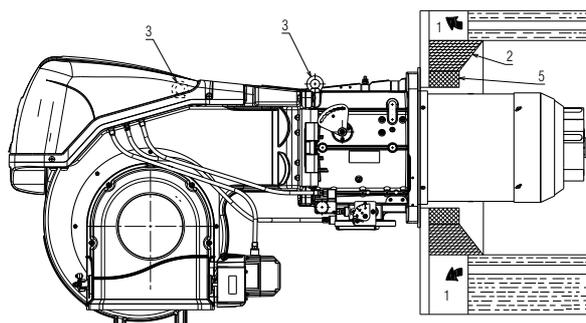

Fig. 16
For boilers with front flue passes 1)(Fig. 16 on page 22) or flame inversion chamber, a protection in refractory material 5) must be inserted between the boiler fettling 2) and the flame funnel 4).
For boilers with a water-cooled frontpiece, a refractory lining 2)-5)(Fig. 16 on page 22) is not necessary, unless expressly requested by the boiler manufacturer.
Prepare a suitable lifting system using rings 3)(Fig. 16).
- Fit the heat insulation supplied onto the blast tube 4)(Fig. 16).